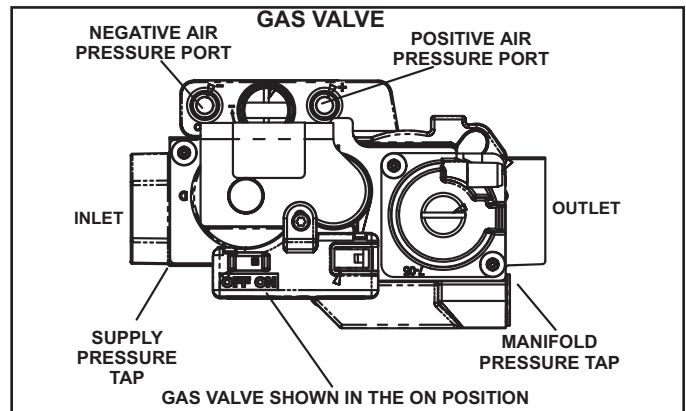

FIGURE 56
Gas Valve Operation (FIGURE 56)
- 6 - Move gas valve switch to OFF. See FIGURE 56.
- 8 - Move gas valve switch to ON. See FIGURE 56.